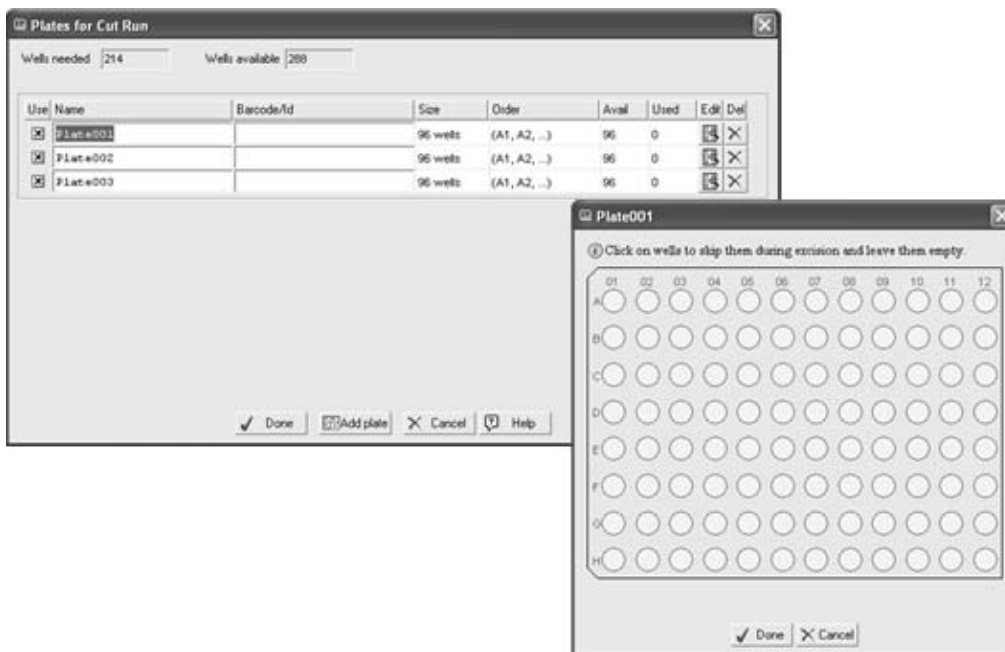

Figure 8-9. "Plates for Cut Run" dialog box
- *Edit:* Click these buttons to show an image of the selected plate (see Figure 8-9). The microplate image displays the status for each well: white, empty well; and red, filled or reserved wells.